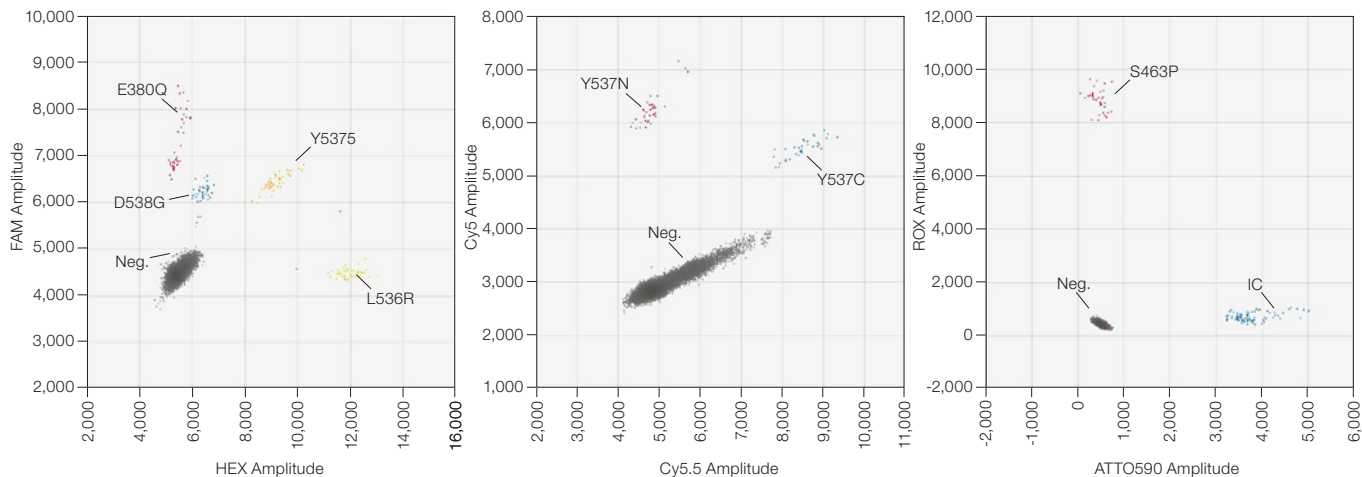

Fig. 12. 2-D plots for 1 well of positive control.
2. Observe the positive control wells to ensure that each plot has the expected negative and positive clusters. Refer to Figure 12 for an example 2-D plot for one positive control well.